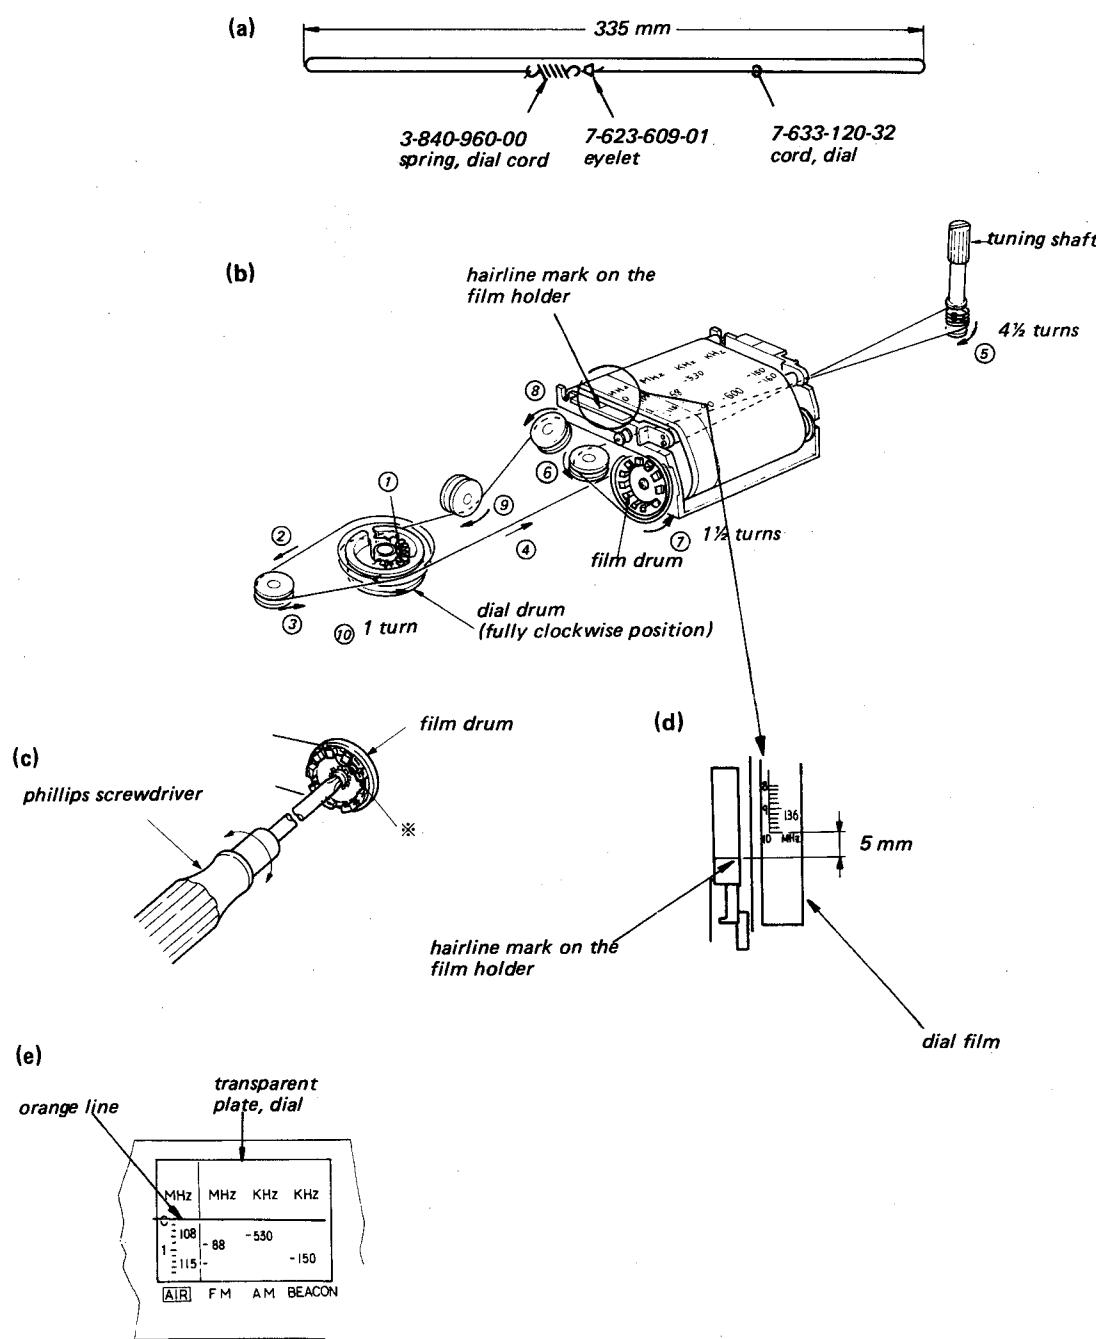

Fig. 2-11.
1. Make a dial cord assembly as shown in Fig. 2-11 (a) and apply a small amount of lock paint to the knotted portions.
2. String the cord as shown in Fig. 2-11 (b).
3. Set the tuning shaft to fully clockwise position and adjust the film drum position with a phillips screwdriver as shown in Fig. 2-11 (c) so that the logging scale "10" on the dial film
4. places 5 mm above the hairline mark on the dial film holder as shown in Fig. 2-11 (d).
5. Hang the dial cord on the claw of the film drum as shown with \* in Fig. 2-11 (c).
- Set the chassis back into the cabinet and set the tuning shaft at fully counterclockwise position and check that the orange line on the dial transparent plate is at the mark "0" on the dial film as shown in Fig. 2-11 (e).